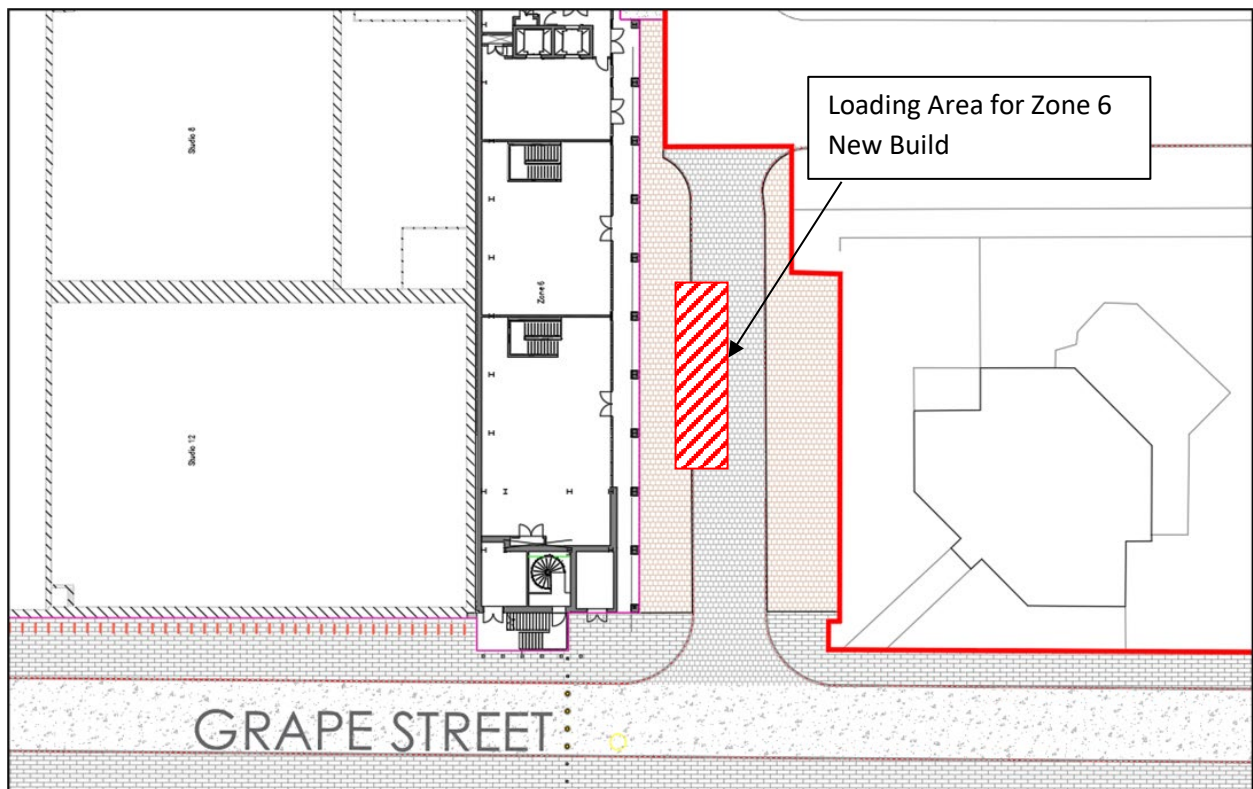

Figure 2.2 Loading Area outside Zone 6 New Build
- 2.8 The location is described in **Figure 2.2** below.